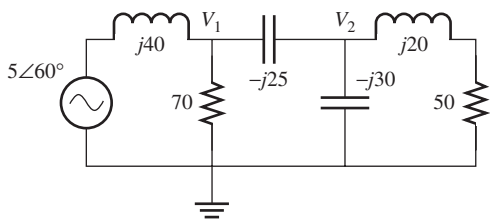

FIGURE P6.38 Circuit for Problem 6.38.
6.38 (A) Find the node voltages V_1 and V_2 in Figure P6.38.